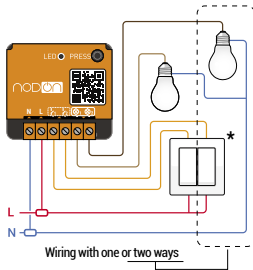

Figure 1
- Install the ON/OFF Lighting Relay Switch according to diagram figure 1.